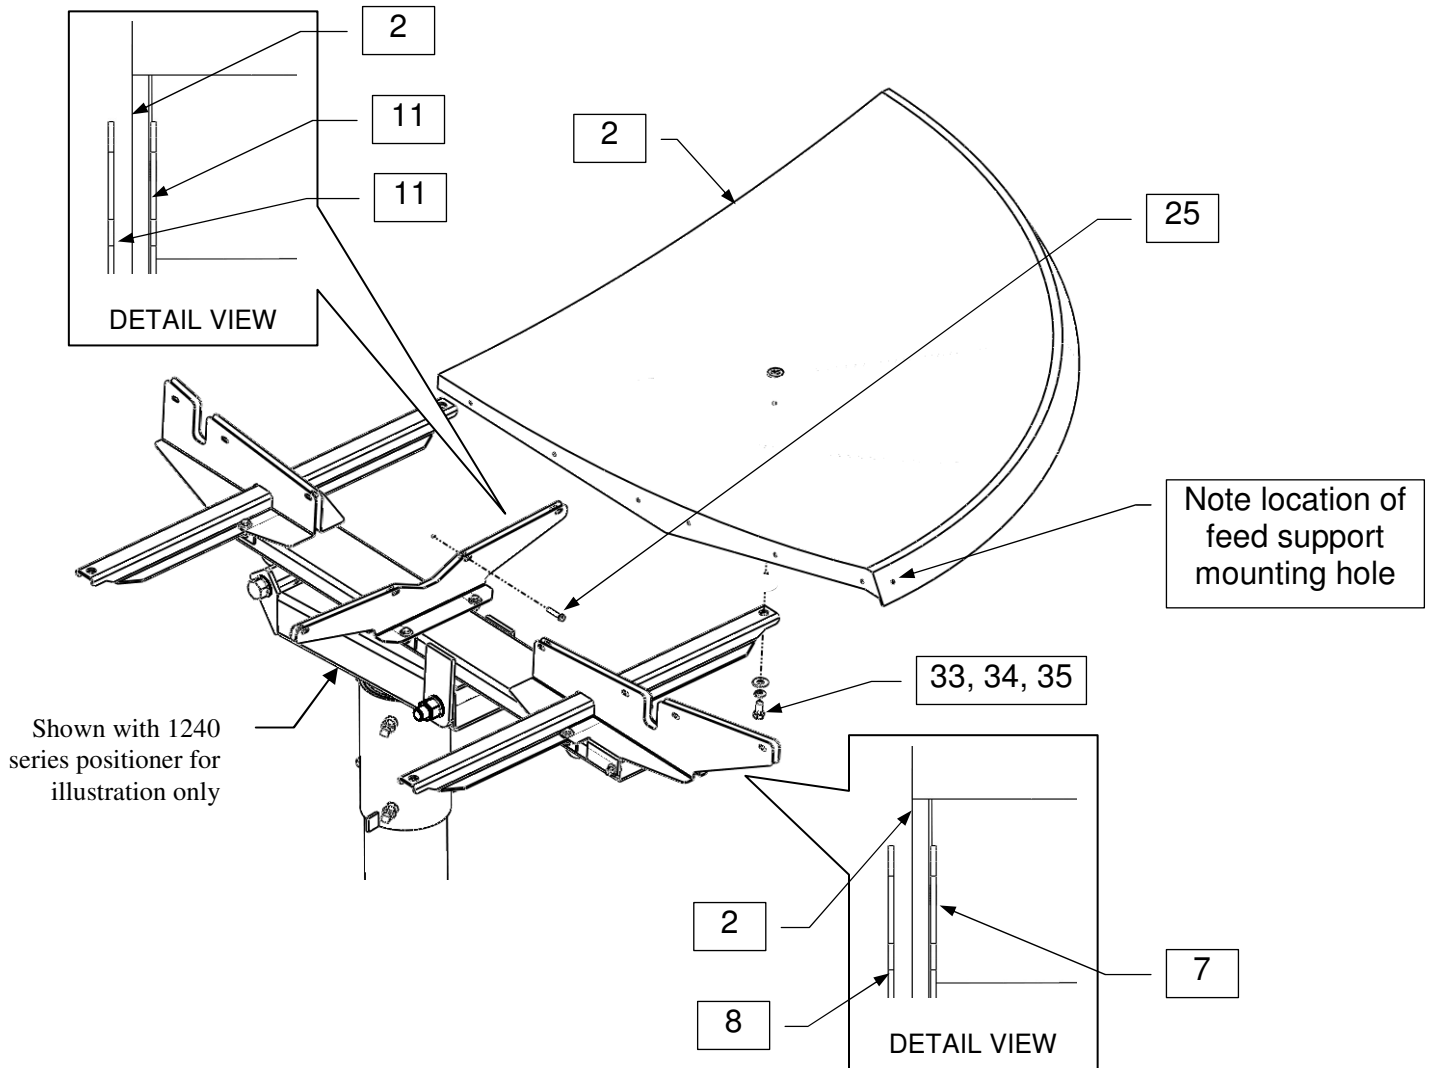

Figure 9: Quad #2 Installation
(A) Place Quad #2 on the cross arm (item 13) with the seam ribs between the reflector brackets (items 7, 8, 11). Note that the longer side should be aligned with the major axis. Note the location of the feed support mounting hole at the bottom of the reflector in Figure 9.